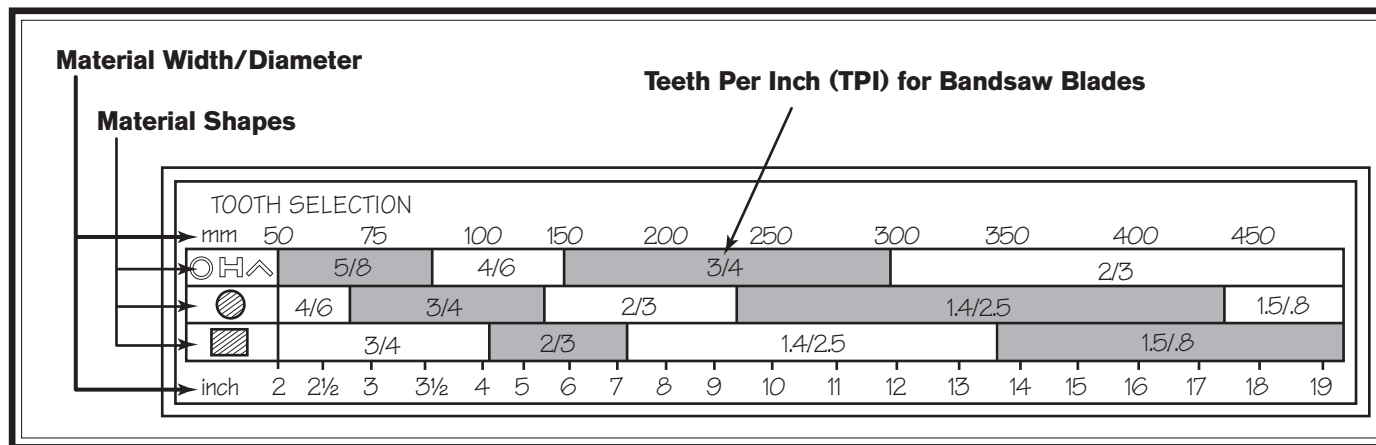

Figure 28. General guidelines for blade selection and speed chart.
2. Refer to the "Material Width/Diameter" row of the blade selection chart in **Figure 28**, and read across to find the workpiece thickness you need to cut.